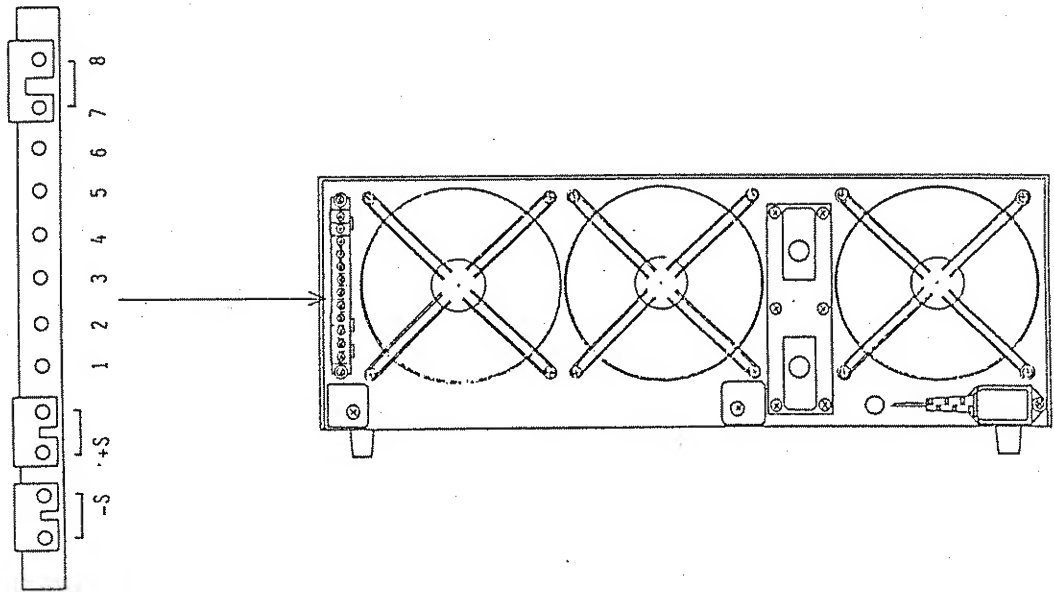

Figure 2-7-1
- (1) The input circuit of the voltmeter is connected to the +S and -S terminals of the control terminal block (23) on the rear panel. See Figure 2-7-1.
- (2) Disconnect the shorting pieces (22) and connect the input circuit of the voltmeter directly to the output circuit of the power source to be tested.